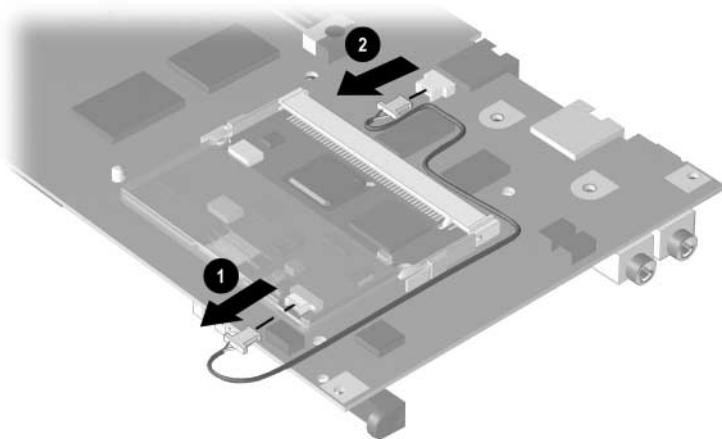

Figure 5-36. Removing the Modem Cable
3. If the modem is installed on the system board, disconnect the modem cable from the modem ① (Figure 5-36).
4. Disconnect the modem cable from the system board ②.
When installing the modem cable, route the cable as shown in Figure 5-36.